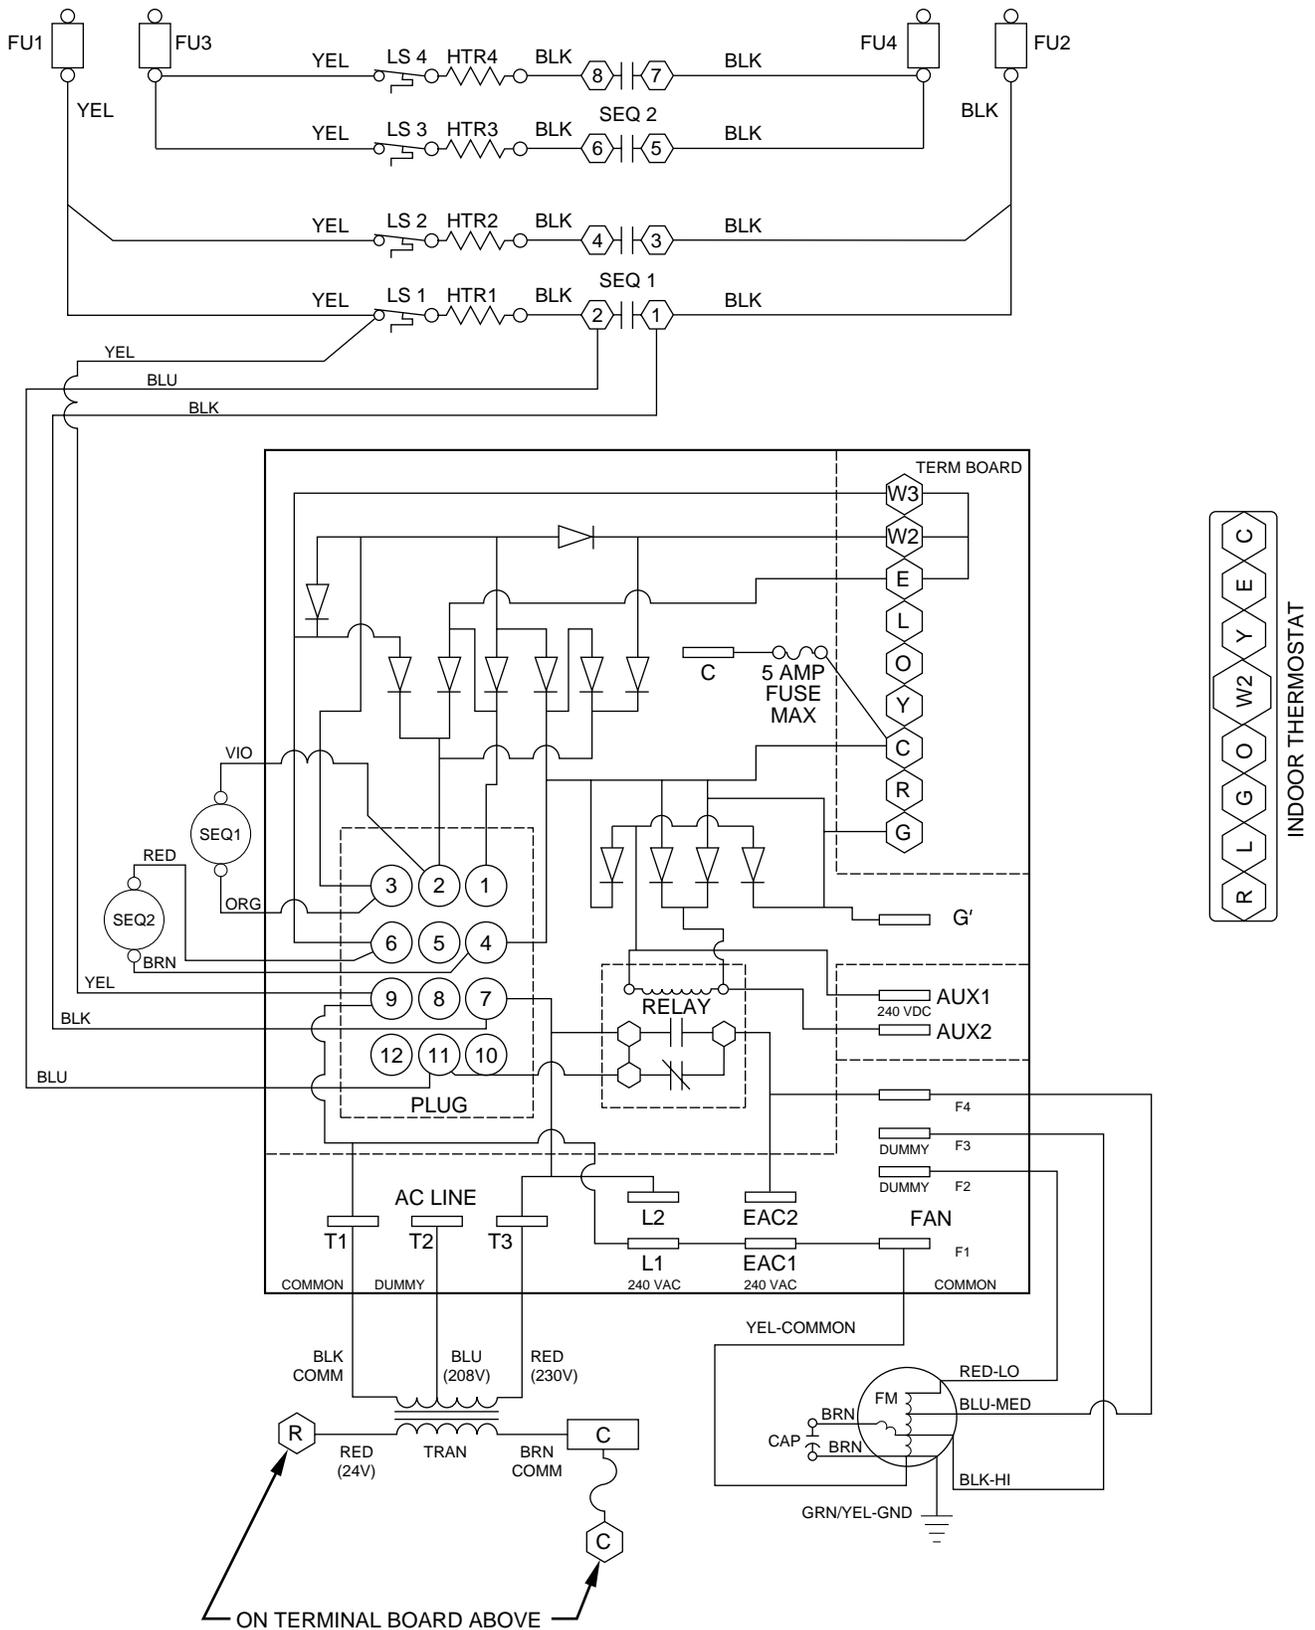

Fig. 39—Wiring Schematic (HK61GA001)
Use Fig. 39 wiring schematic as a guide in troubleshooting the PCB unless otherwise noted.
1. Check the low-voltage transformer leads, R and C. Make sure they are wired to the correct locations. Note that Fig. 39 shows wiring of the HK61GA001 board.
2. If any of the c diodes are blown, the fan is miswired to 1 of the low-voltage terminals, AUX1 or AUX2. Check to make sure that the fan leads are connected to the proper terminals as shown in Fig. 39. If the fan is connected properly, make sure that no other high voltage is applied to the AUX terminals.
2. Check the wiring of the sequencers as shown in Fig. 39. Make sure the low-voltage and the high-voltage wiring are connected to the proper sequencers.